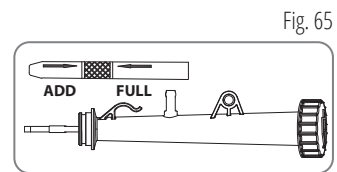

Fig. 65
7. The oil level must be between the marks on the dipstick (Fig. 65). If the level is near the ADD mark, fill oil to the FULL mark.